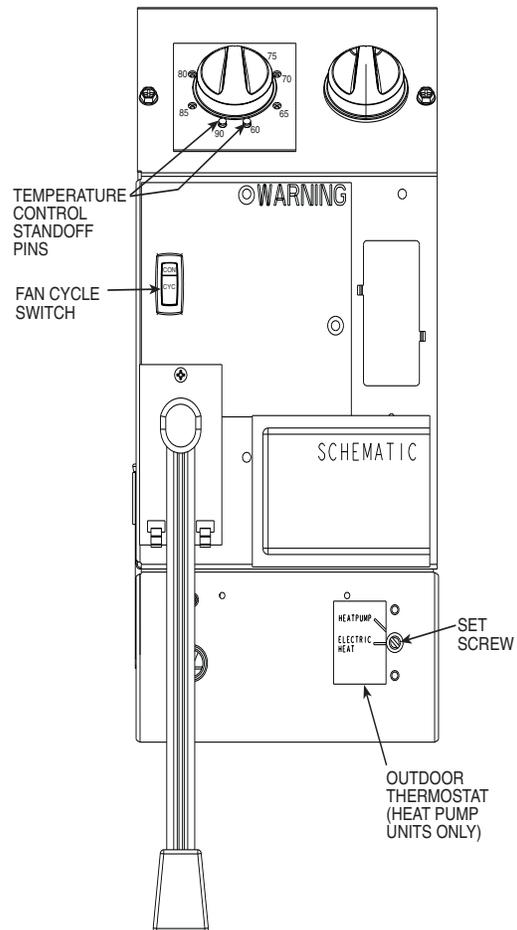

FIGURE 14 — OPERATING CONTROLS
■ **SETTING TEMPERATURE LIMITS** — Setting temperature limits on the unit provides the user a restricted range of temperature control. See Figure 14.
The following controls are located on the front of the control box door, under front panel. To obtain access to operating controls, remove the unit front panel as shown on page 2. See Figure 14.
■ **OUTDOOR THERMOSTAT (52CQ and 52PQ HEAT PUMP UNITS ONLY)** — If the setscrew is left at the factory setting (in the heat pump position), the unit will operate in the reverse cycle heating mode. See Fig. 14. When the temperature of the outdoor coil reaches 20° F (approximately 35° F outdoor air temperature), the compressor will shut down. The electric heater remains on until the temperature of the outdoor coil reaches 35° F (approximately 45° F outdoor air temperature); then the electric heater is shut off and the compressor is energized.
To set unit to operate in electric heat mode only, turn the setscrew to the electric heat position. See Fig. 14.